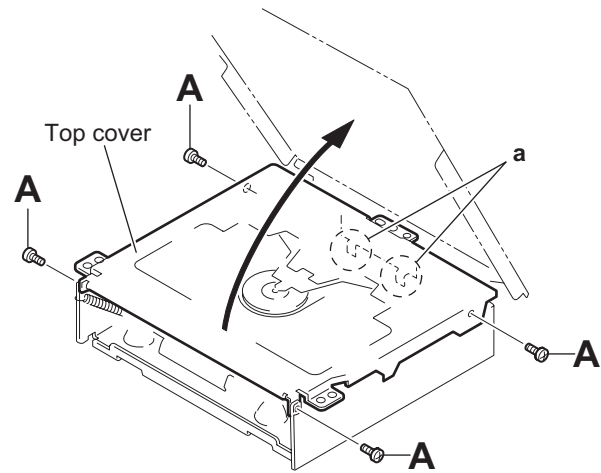

Fig.1
3.2.1 Removing the top cover (See Figs.1 and 2)
- (1) From the both side of the CD mechanism assembly, remove the four screws **A** attaching the top cover. (See Fig.1.)
- (2) Lift the front side of the top cover and move the top cover backward to release the two joints **a**. (See Figs.1 and 2.)